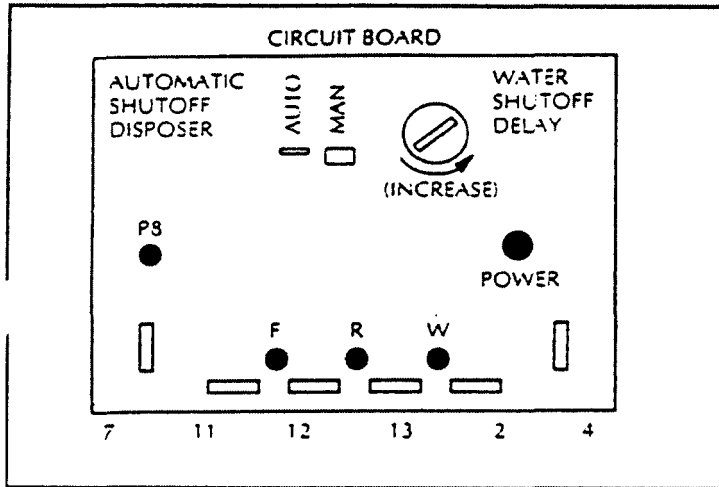

FIGURE 7. Circuit board with water shutoff delay.
**NOTE:** This feature is set in the off position at the factory. To activate the automatic timed disposer shutoff, disconnect the electric power to the control center, then open the control center door. Locate the shutoff plug at the top of the circuit board (See page 6, Figure 7). Move the plug from manual (MAN) pins to automatic (AUTO) pins. The disposer now automatically shuts off 10 minutes after it starts.
The water shutoff delay is adjustable from 30 seconds to 10 minutes. See Figure 7.